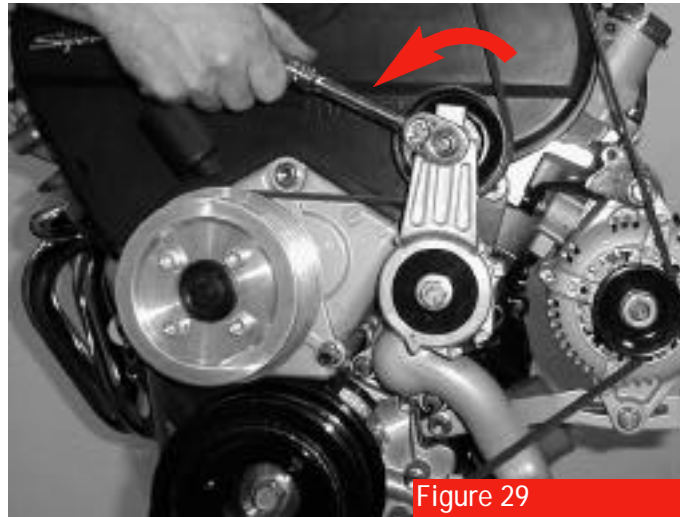

Figure 29
7. To assist in belt installation, using a 3/8" long handle ratchet (**figure 29**), pull down in direction of **arrow** to provide slack on belt.